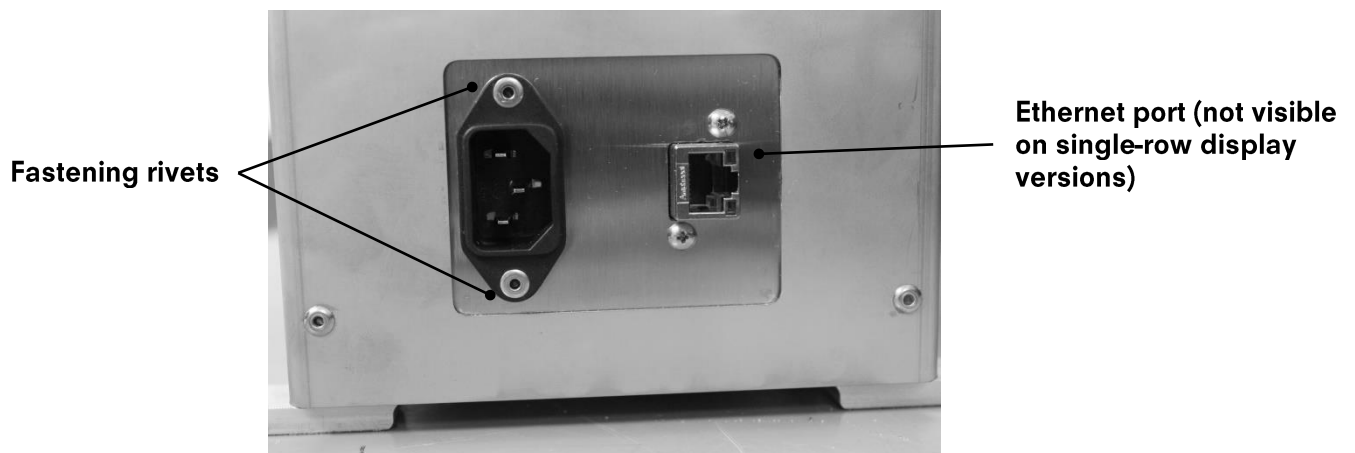

Figure 59: Drill out the fastening rivets
5. Rivet a new power entry module into place using 1/8" diameter, domed, stainless-steel pop rivets with a 0.18" grip. Install the module in the same orientation as shown in Figure 59 to ensure the wires are re-connected in the correct locations.